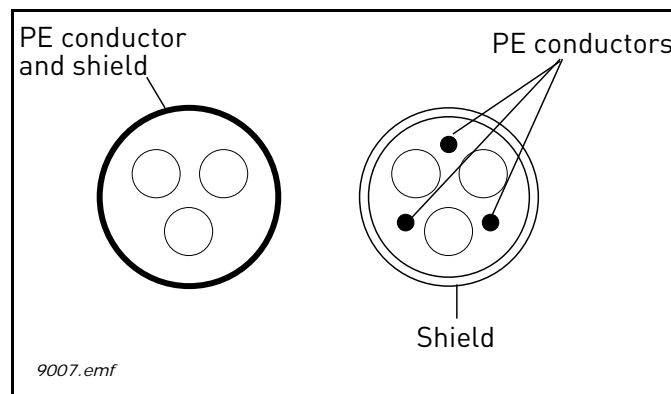

Figure 16.
- 2 = Symmetrical power cable equipped with concentric protection wire and intended for the specific mains voltage. (MCMK or similar recommended). See Figure 16.
- 3 = Symmetrical power cable equipped with compact low-impedance shield and intended for the specific mains voltage. [MCCMK, EMCMK or similar recommended; Recommended cable transfer impedance (1...30MHz) max. 100mohm/m]. See Figure 16.